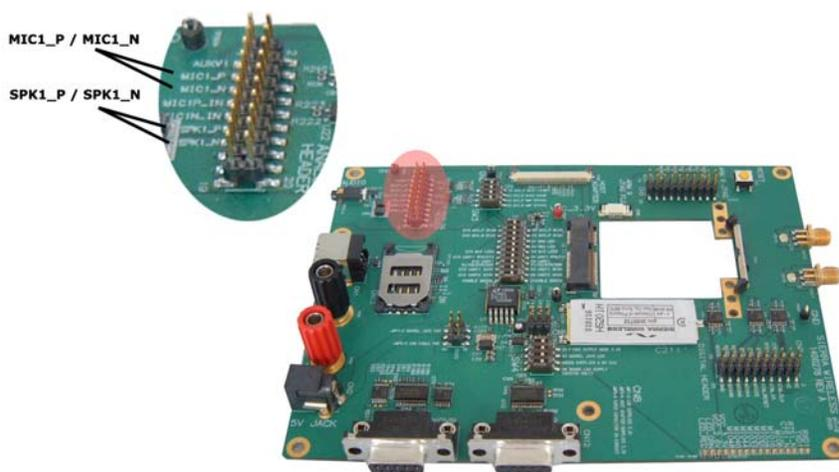

Figure 8-1: Mini Card Dev Kit showing MIC/SPK pins.
- ii. Connect the analyzer input signal to the SPK1_P (positive) and SPK1_N (negative) header pins located at CN18 on the Dev Kit (see Figure 8-1 on page 85). For additional details concerning use of the Dev Kit, see the *PCI Express Mini Card Dev Kit Quick Start Guide (Document 2130705)*.